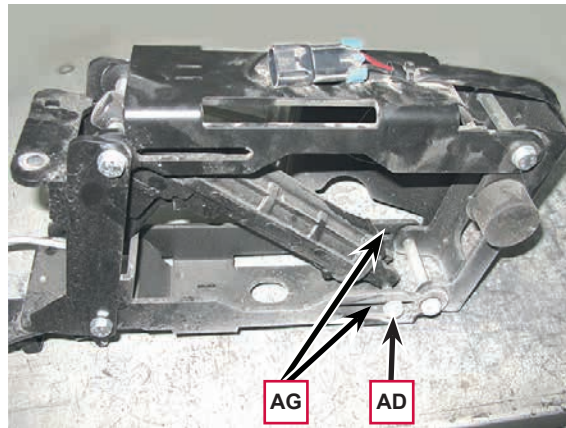

Figure 13
- If necessary, replace the lock nut on the screw (AD, Figure 13) to ensure correct fastening; also screw it down just enough to bring it flush, ensuring free movement of the screw (AD) on the slots (AG)